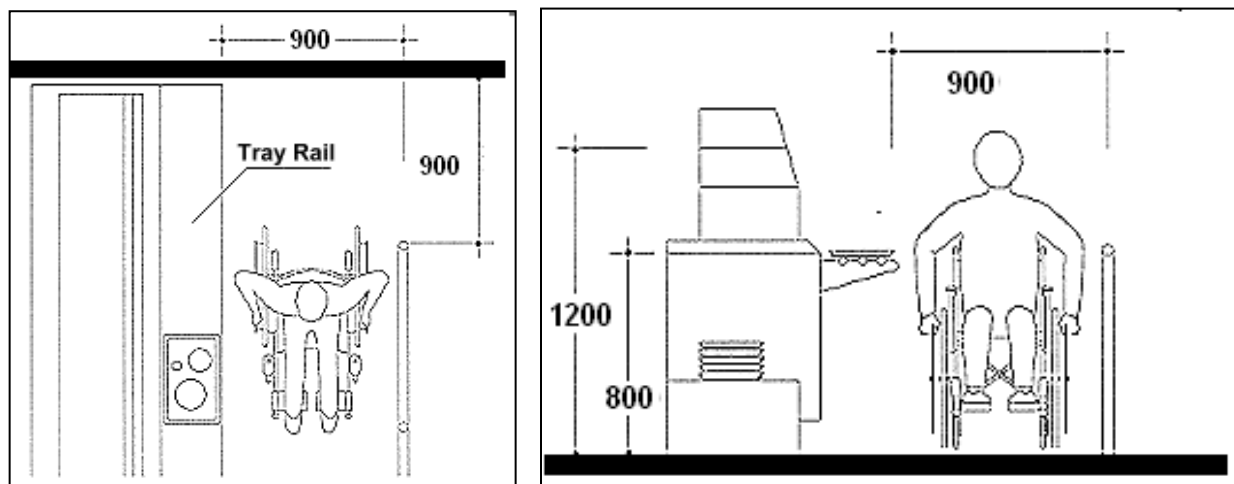

Figure 18-7. Wheelchair aisle space and reach height for self serving
- In self-service dining areas, tray slides and counters should be mounted at 800mm from the floor for wheel chair users. Aisle space of minimum 900mm should be provided (Figure 18-7).